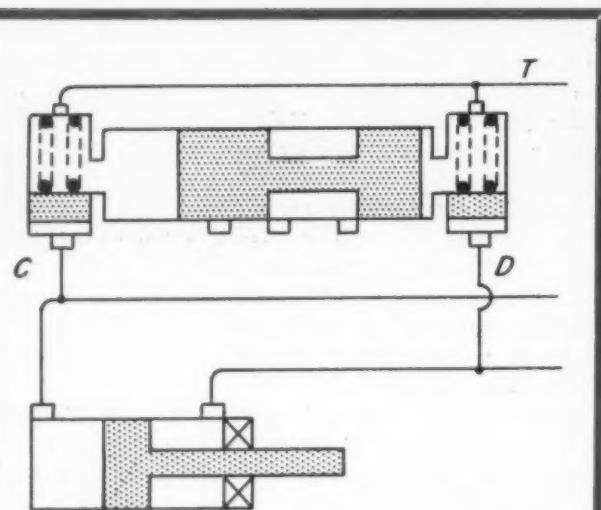

Fig. 113 — Above — Pressure-sequence valve which reverses at completion of forward and reverse movement of a cylinder
A characteristic of the pressure-sequence valves so far described is that they reset themselves as soon as pressure drops, i.e., as soon as an alternative path other than through the valve is open to the pump output, provided of course the resistance of that path is not excessive. A different type of pressure-sequence device is shown in *Fig. 113*. Here two pilot pressure-sequence valves are used to operate a third valve of
1. The pressure-sequence valve of Fig. 113, the flow-operated valve of Fig. 115, and also stay-put me-
2. Selectors operated by pilot valves (of the type indicated in item 2 preceding) at the rate of two pilot valves per cylinder, except for the last one in the cycle which need only have one. Selectors must be of the stay-put type. Alternatively, selectors can be sequence valves of the pressure or flow-operated types of *Figs. 113* and *115*, respectively. In this case some toggle device should preferably be added.
3. Selectors operated by pilot valves of the type indicated in item 1 preceding, one only being required for each cylinder. Selectors may be of stay-put or spring-biased type, the latter requiring fewer connections on the pilot valves.
Exactly the same circuit can be used with pressure-sequence valves of the types of *Fig. 113*, or with mechanically operated pilot-sequence valves having stay-put action reversed at each end of the cylinder travel.